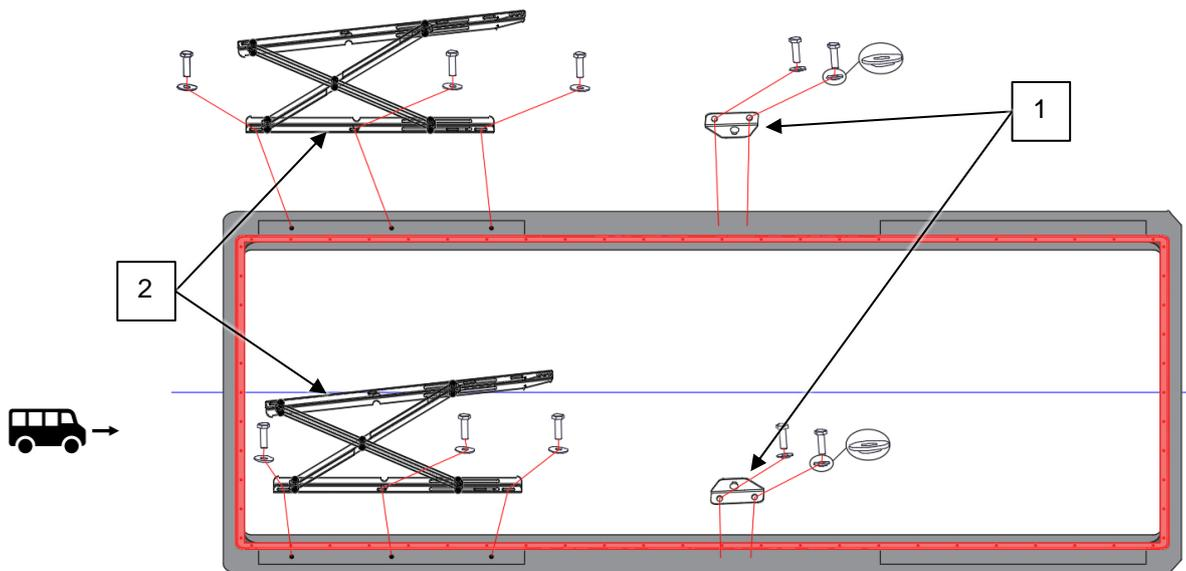

Abb. 5-1: Installation of the hinges [A0004005]
- Screw the gas spring holder with the ball head outwards onto the GRP frame (see Abb. 5-1, 1.)
- First screw the mechanics (2) on loosely onto the GRP frame before checking position.